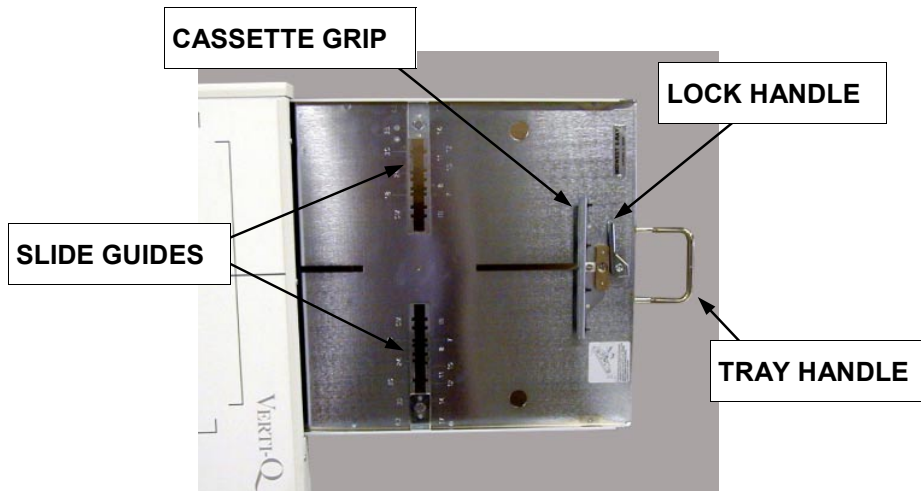

Figure 6. Midwest Cassette Film Tray
1. Pull cassette tray from Receptor Cabinet using tray handle (see Figure 6).